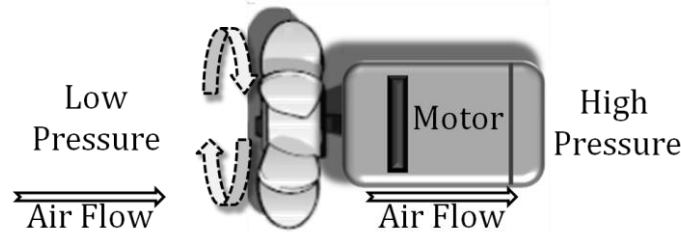

Figure 15: Illustration showing a working motor and the regions of high and low pressure.
1. The fan creates the swiftly moving air that sweeps the dust. More precisely, by switching on the vacuum cleaner, the fan begins to rotate pumping air from the hose to the exhaust port. The hose is the low pressure region while the exhaust port is the high pressure region. In this way a partial vacuum is created in the hose and as a consequence the surrounding air rushes into the vacuum cleaner through the hose (see Fig 15). The pressure drop inside the vacuum cleaner can be explained in terms of Bernoulli's principle.